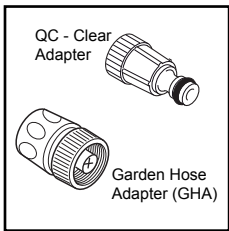

Fig. 11
- Install the garden hose adapter (GHA) and quick connect filter. It is made up of two separate pieces. (1) A clear plastic adapter with a screen filter (about 3 inches long) and (2) a blue/black collar attachment (Fig. 11).